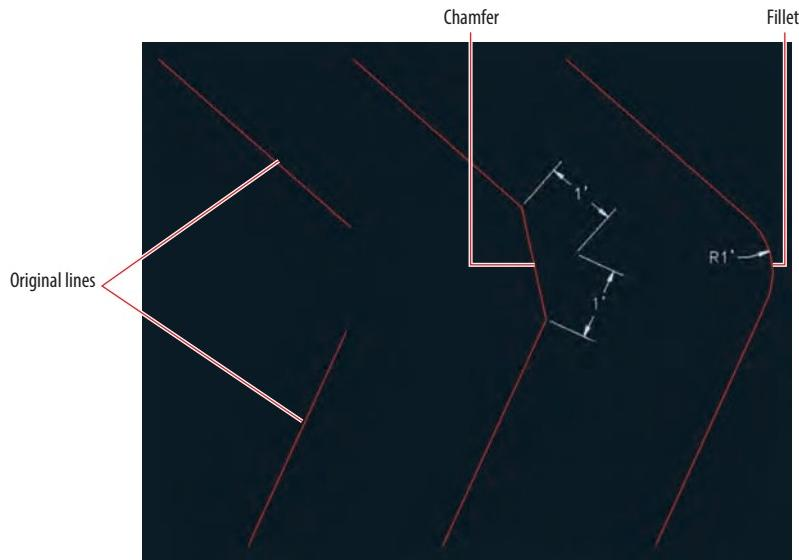

FIGURE 2.27 Chamfered and filleted lines
3. Click one line and then hover the cursor over the second line; you'll see a preview of the chamfer that will be created. Click the second line to perform the chamfer and complete the command. (The chamfer is shown in the middle of Figure 2.27.)
5. Click the first line and then position the cursor over the second line; the fillet preview shows on the screen. Click the second line to commit to that particular radius. (A fillet is shown at the right of Figure 2.27.)